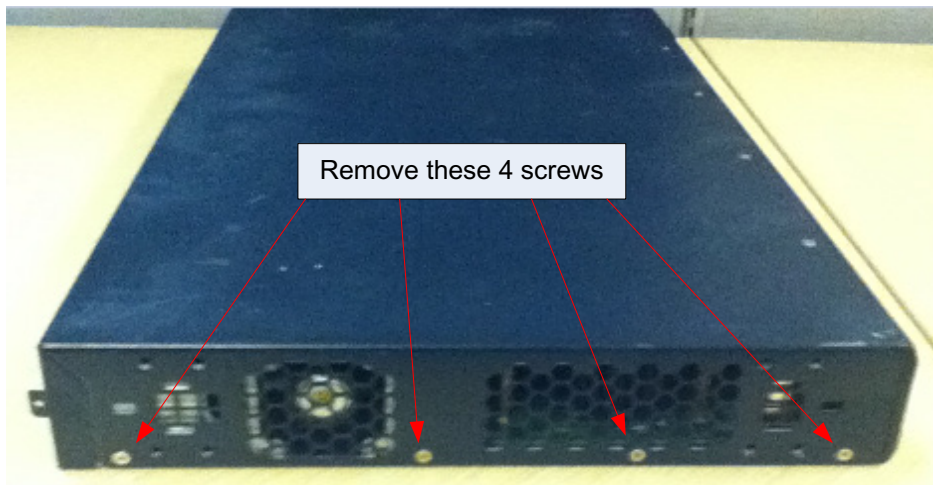

Figure 3-3: EX2200 Right side screws
3. Remove four screws from right side of chassis (Figure 3-3)